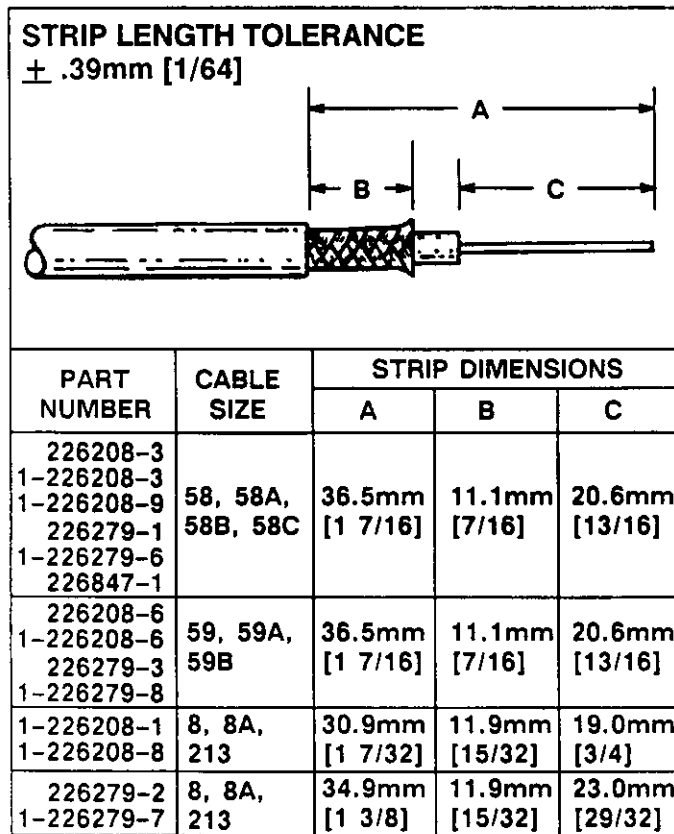

Fig. 2
2. Strip the cable to the dimensions shown in Figure 2.